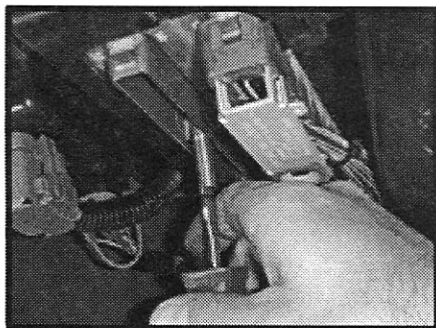

Fig. 6
5. Install the JET extender bolt into the ECM (computer). Tighten the extender bolt all the way down until it bottoms out. (see Fig. 6).